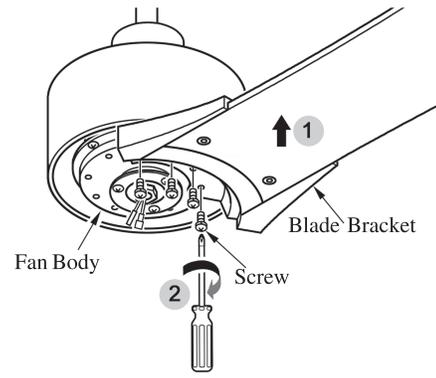

FIG.11
2. Attached each blade assembly to the fan body using the blade bracket screws. Tighten them securely. (See fig.11)